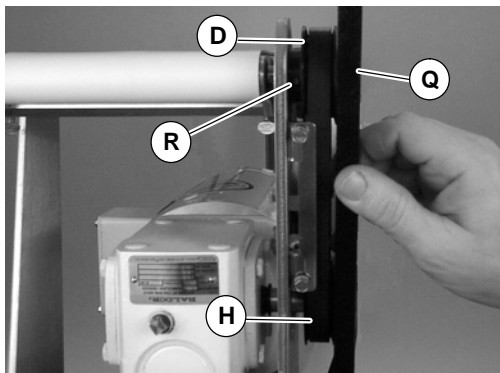

Figure 7
5. Using a straight edge (Q of Figure 7), align driven pulley (D) with drive pulley (H). Tighten driven pulley set screws (R).